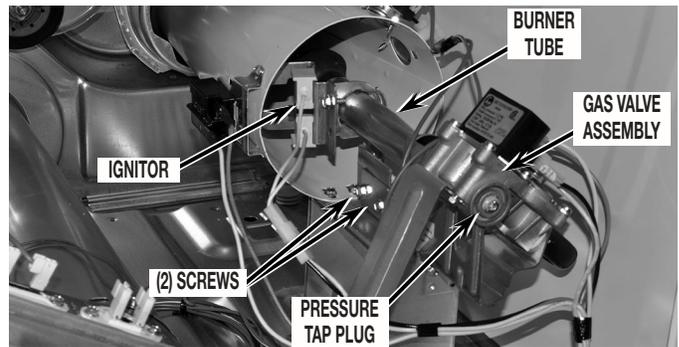

FIGURE 1A
1. Remove the two (2) screws securing the burner tube to the burner base. See Figures 1A and 1B.
- Slide the burner tube back in place and, using the screws removed in Section 3, step 8, reattach burner tube to the burner assembly. Securely tighten the two (2) mounting screws. See *Figure 1A or 1B*.